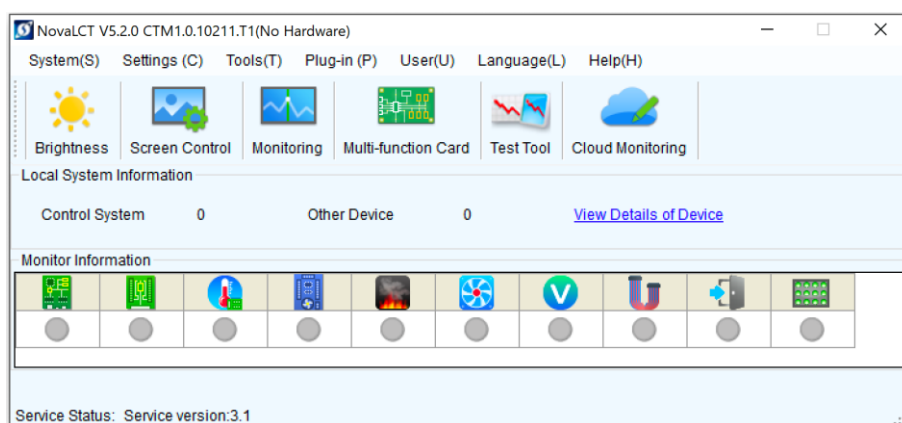

Figure 98: Starting the Monitoring Function
Step 1) Click the **Monitoring** button to open the monitoring interface (see Figure 98).